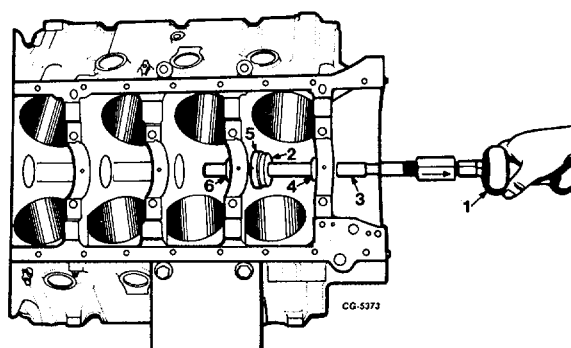

Fig. 80 Removing Second Bearing
6. Position the front adapter SE-1897-7 in the front bearing with the flange toward the front of the block, Figure 80.
7. With the second adapter still in position, install the bar through the adapters and lock the second adapter on the bar with "C" washer, Figure 80.
8. Using the front adapter as a pilot, pull the second bearing with a slide hammer, Figure 80.